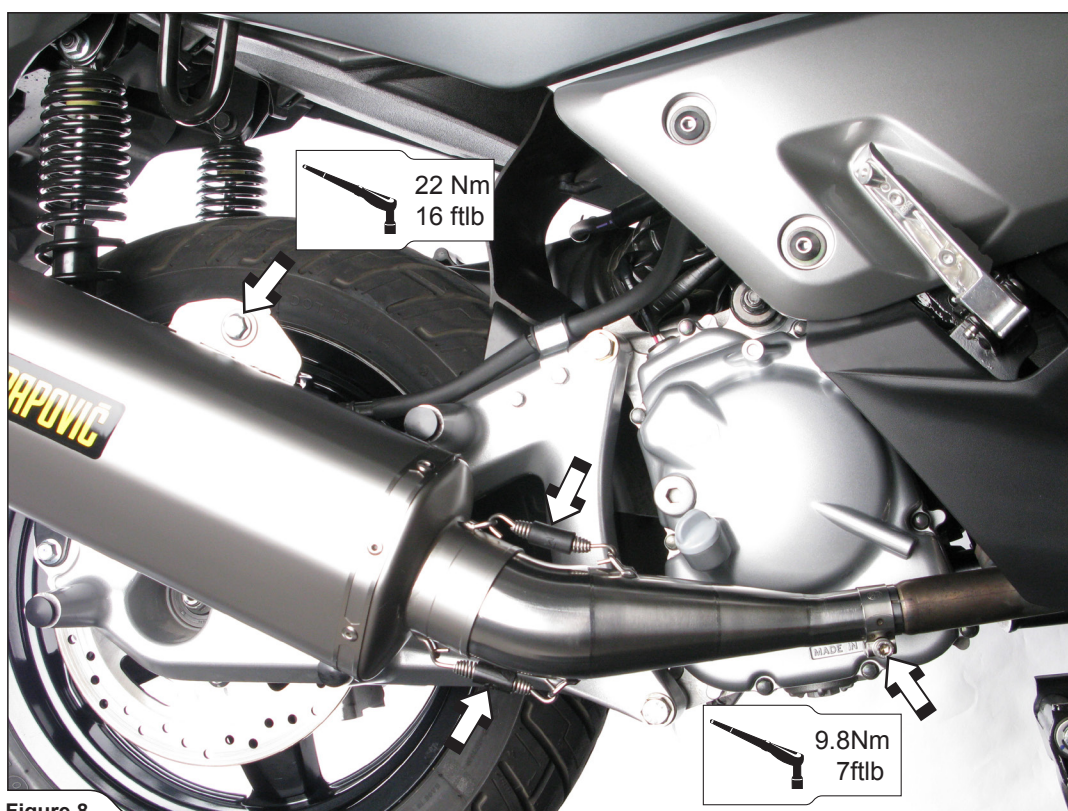

Figure 8
5. Position the muffler correctly and slide it onto the outlet side of Akrapovič link pipe and attach the springs. Align the muffler in respect the motorcycle and tighten the muffler's bracket bolt, using Akrapovič bolt and washer. Tighten the metal clamp at the Akrapovič link pipe/stock header pipe joint to a specified torque (**Figure 8**).